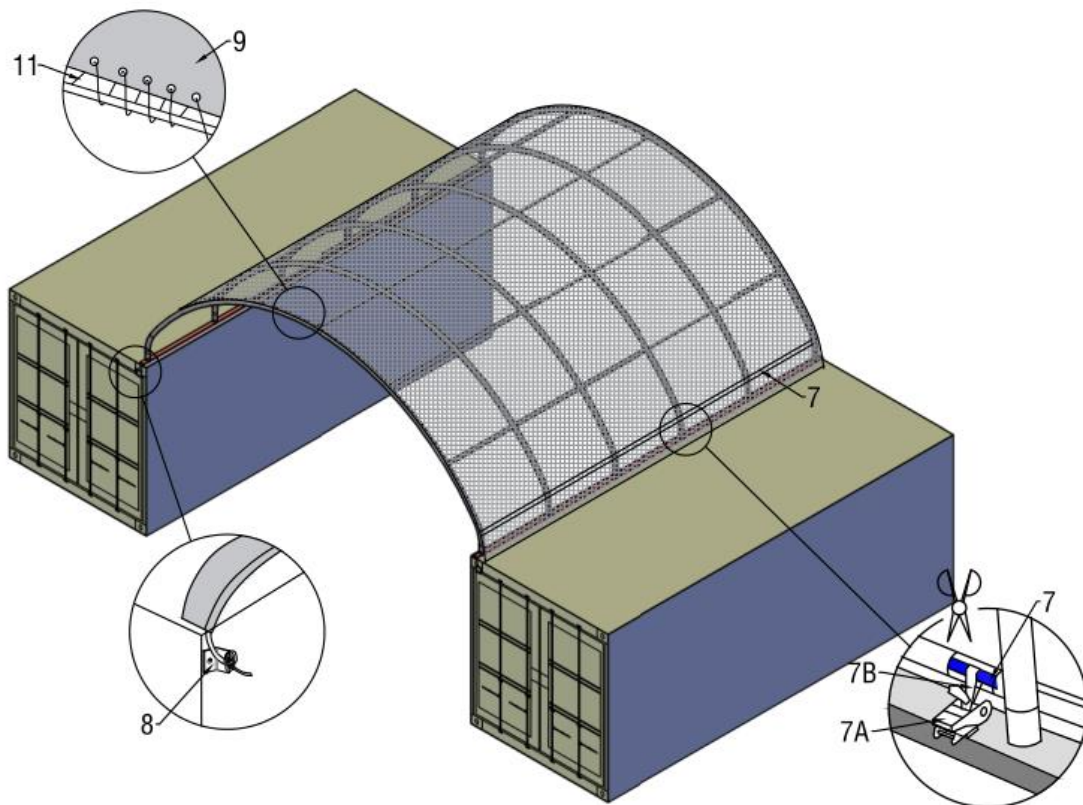

Figure 7
3. Cut pockets according to the position of the base plates and put the Lower Tension tubes for roof cover (part code 7) into the pocket of roof cover. Then use the Rope (part code 11) to tie down the Lower tension tubes like the Figure 7